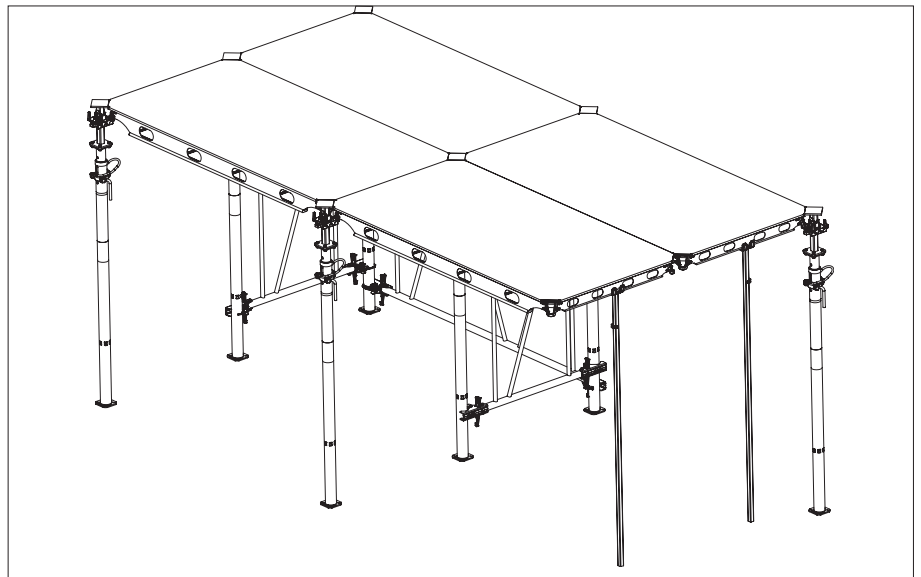

Fig. A5.12
5. Now, both the shuttering aids act as temporary support until the next prop is attached to the panel corner. (Fig. A5.12)